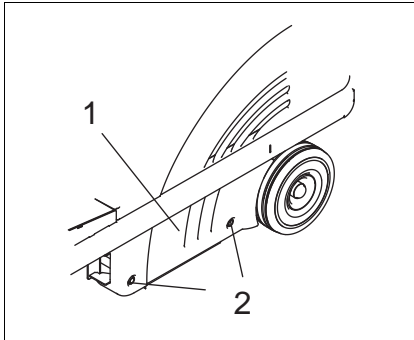

Fig.11 Abdeckung abnehmen
- Open locks (Fig. 11/2) by enclosed square spanner (counter-clockwise)
- Remove cover (Fig. 11/1)